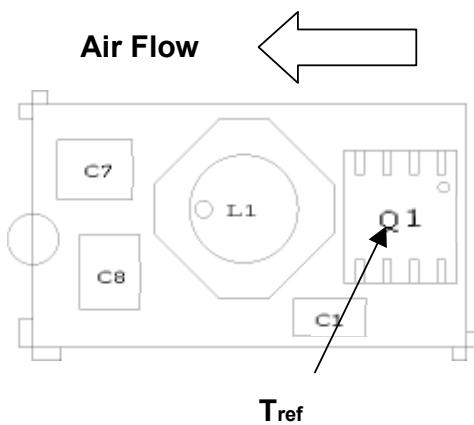
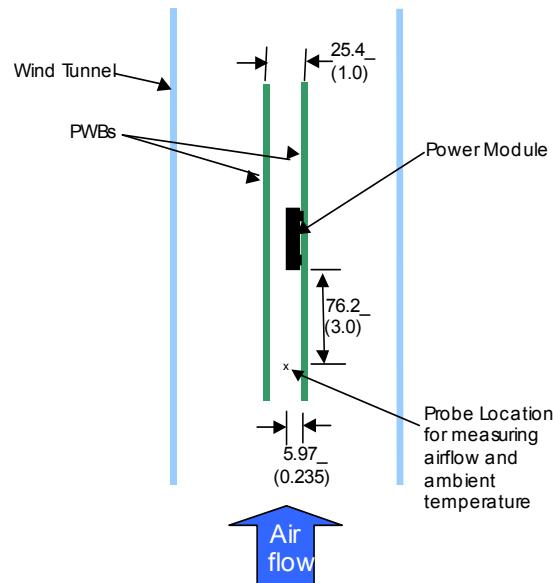

Figure 31. T_{ref} Temperature measurement location.
Figure 32. Thermal Test Set-up.
To provide over temperature protection in a fault condition, the unit relies upon the thermal protection feature of the controller IC. The unit will shutdown if the thermal reference point T_{ref2} (see Figure 31) exceeds $140^{\circ}C$ (typical), but the thermal shutdown is not intended as a guarantee that the unit will survive temperatures beyond its rating. The module will automatically restart after it cools down.
Considerations include ambient temperature, airflow, module power dissipation, and the need for increased reliability. A reduction in the operating temperature of the module will result in an increase in reliability. The thermal data presented here is based on physical measurements taken in a wind tunnel. The test set-up is shown in Figure 32. Note that the airflow is parallel to the long axis of the module as shown in figure 31. The derating data applies to airflow in either direction of the module's long axis.
The thermal reference point, T_{ref} used in the specifications is shown in Figure 32. For reliable operation this temperature should not exceed 115°C. The output power of the module should not exceed the rated power of the module ($V_o, \text{set} \times I_o, \text{max}$).